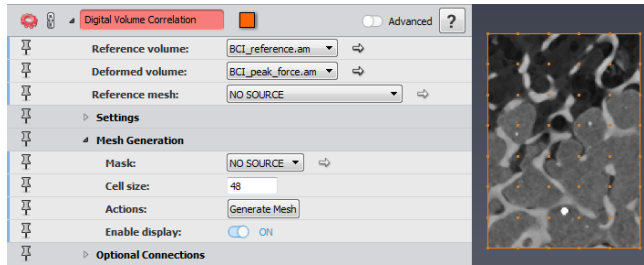

Figure 21.10: Generate a Tetrahedral Grid (yellow points represent the nodes of the mesh to create).
- Generate a tetrahedral grid using the *Mesh Generation* section. Set the *Cell size* to 48 and turn on the *Enable Display* port to see the nodes of the mesh (see Figure 21.10). Click *Generate Mesh* to create the mesh.